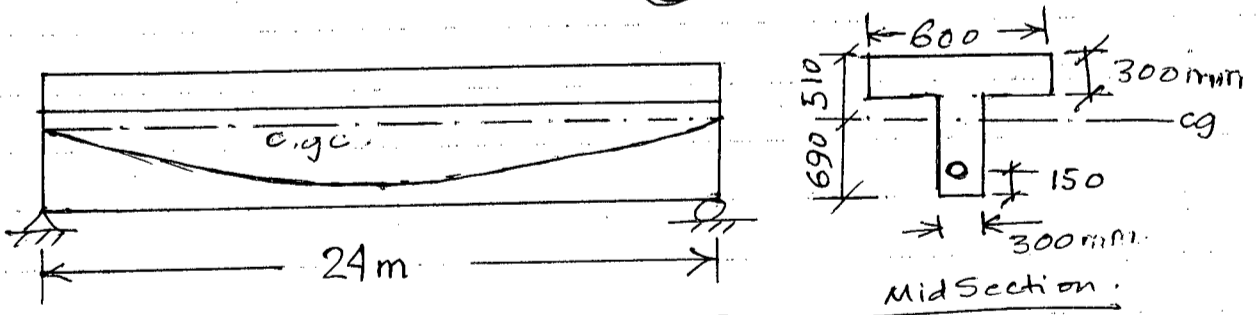

Fig. 3
3. A prestress concrete beam of Fig. 3 is post-tensioned with 1800 mm² of high tensile steel to an initial prestress of 1060 MPa at transfer. Compute the initial deflection at midspan. Assume $E_{ci} = 27 \times 10^3$ MPa and $\gamma_{conc.} = 24$ kN/m³.